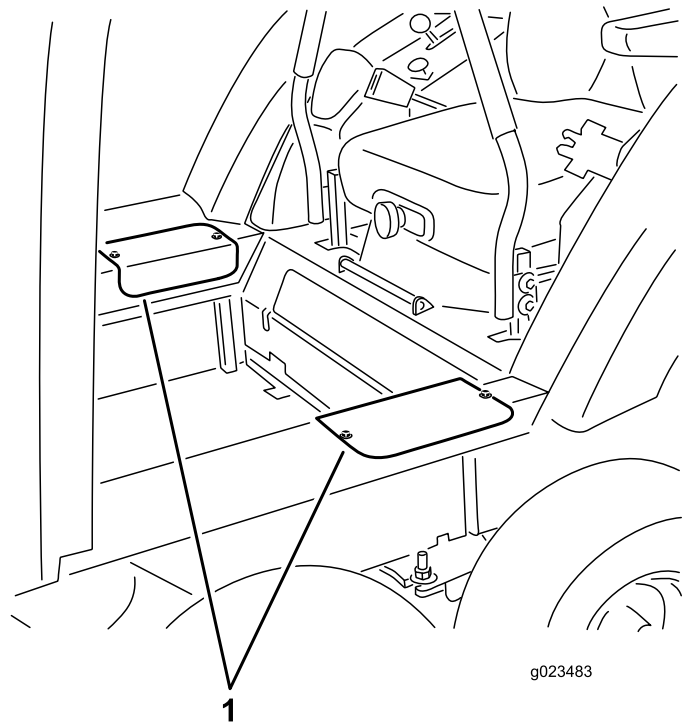

Figure 33
27. Install the side access covers with the screws previously removed (Figure 33).